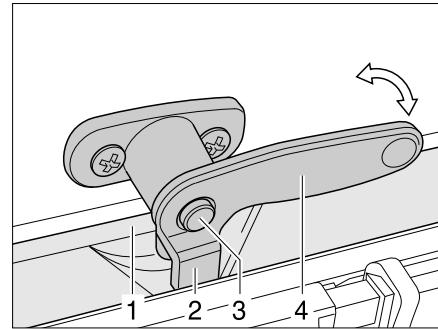

Fig. 76 Catch lever with safety knob in "closed" position
- If it exists, press the safety knob (Fig. 76,3) down and hold it.